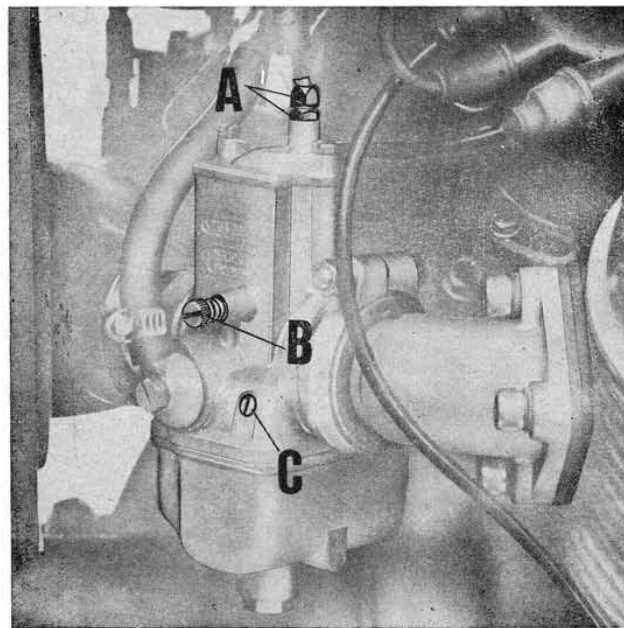

Fig. 13
- 2) Check synchronization of both gas valves with the filter box and the inlet sleeve disconnected. Turn the throttle grip keeping at the same time your fingers on the carburetor slides to feel if both valves open by the same amount and simultaneously. Should one valve open before the other, this can be corrected by setting screw A fig. 13 in the position where by turning the throttle both valves open simultaneously.
- 3) Adjust the idling speed by acting on screw C in fig. 13. Screwing this in reduces the fuel flow and viceversa increases it. To adjust, tighten and then turn screw out 1½ turns for the L/H carburetor and 1¾ to 2 turns for the R/H carburetor.
With the engine running at about 1000-1200 r.p.m., disconnect one of the leads and turn screw C (fig. 13) of the opposite carburetor in or out to the position which will give the best idling speed i.e. when the revs are slightly increasing.
dies out sooner or later, it is necessary to adjust idling screw B fig. 13 setting it at the point where the engine will stop after it has fired 4 or 5 times.
The same operation should be repeated on the right hand cylinder, with the left hand plug lead disconnected. If the R/H cylinder is normal, the engine should stop after firing 4-5 times. If not, screw B fig. 13 should be adjusted to the position where it does so. Finally, the left cylinder plug lead should be re-connected.